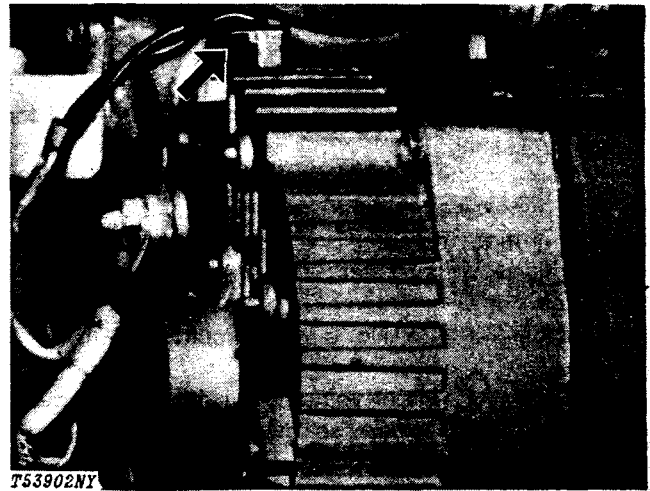
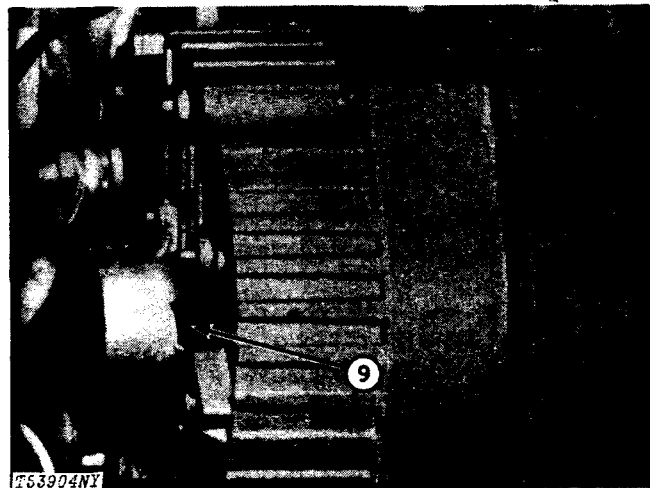

Fig. 8-Alternator Test
Fig. 9-Alternator Test
If output is below 45 amps, ground field by inserting screwdriver into test hole (9, Fig. 9).
8. If reading at alternator No. 1 terminal (Fig. 8) is above 9 volts, insert screwdriver into test hole (Fig. 9) to ground field winding.